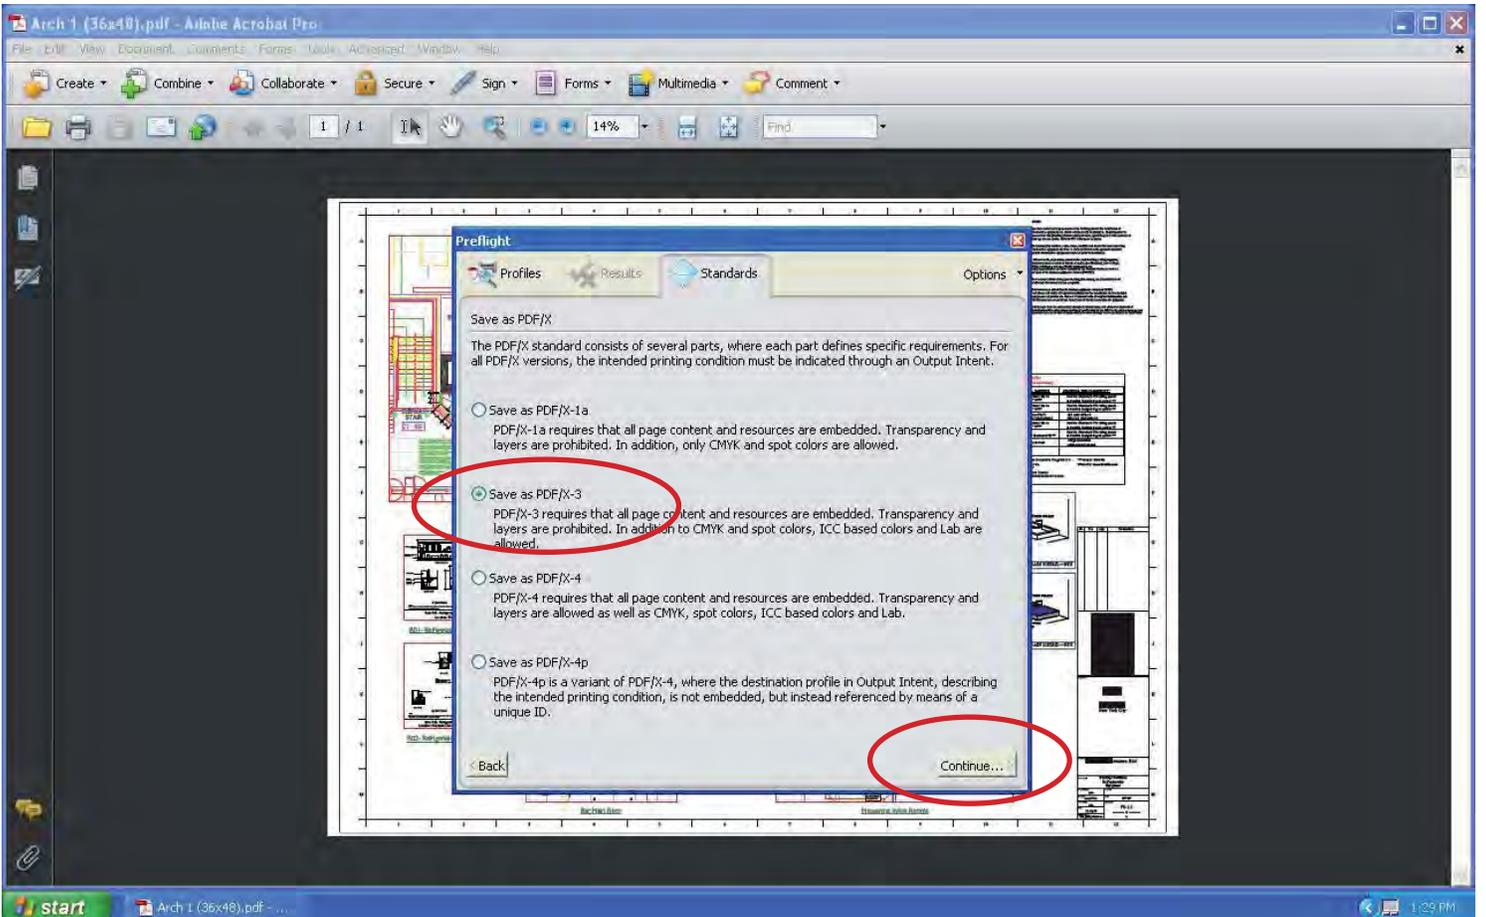

Fig. 4
4. Select Save as PDF/X-3 and click Continue (Fig 4).